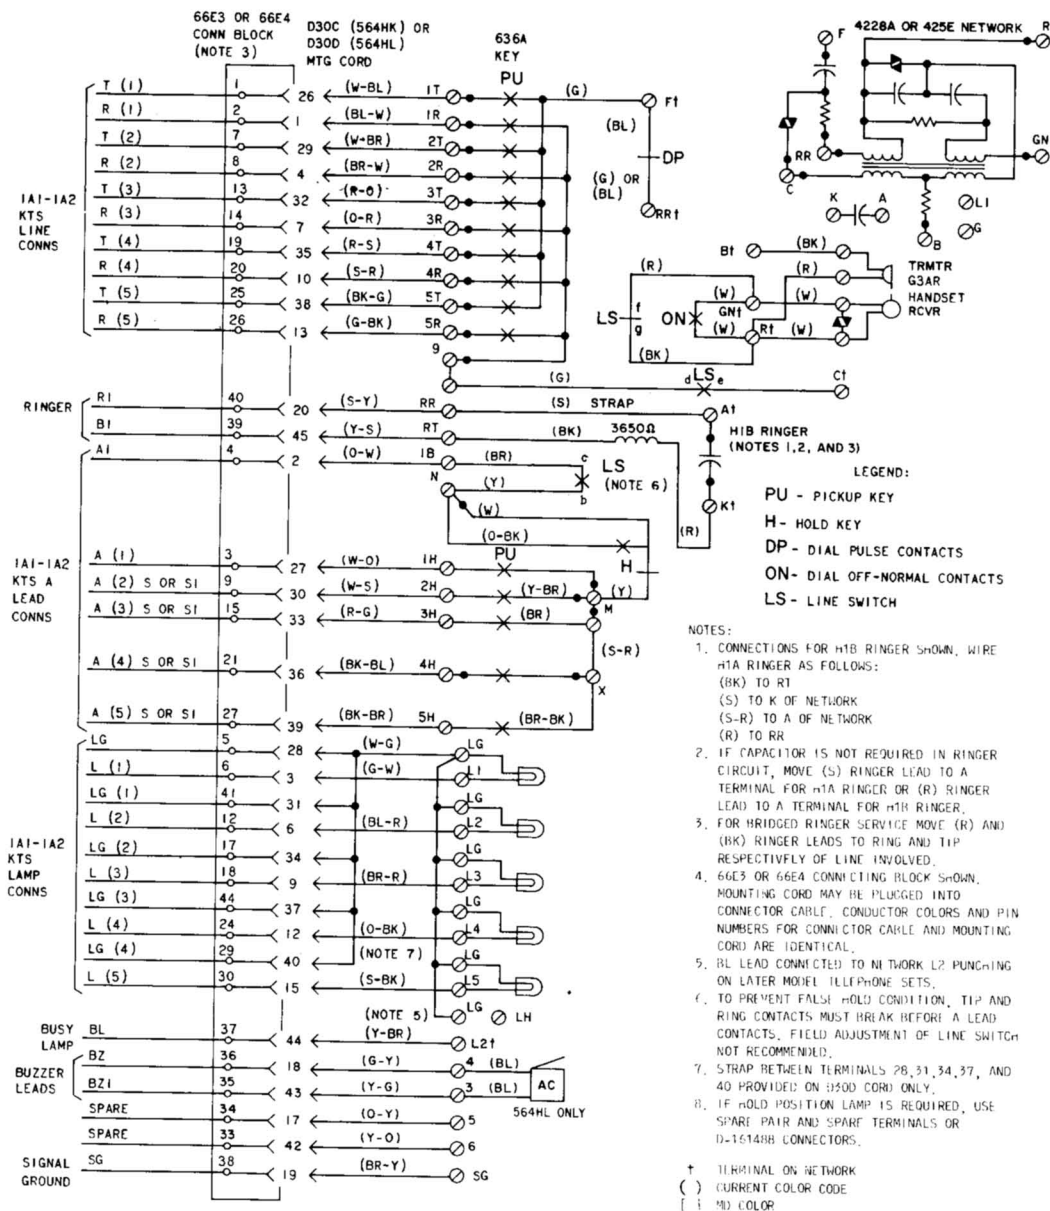

Fig. 3—564HK (MD) and 564HL (MD) Telephone Set, Connections
3.04 The ringer circuit is factory-wired to terminals RR and RT. Refer to notes in Fig. 3 or 4 for ringer connection when bridged ringing on a particular line is desired.